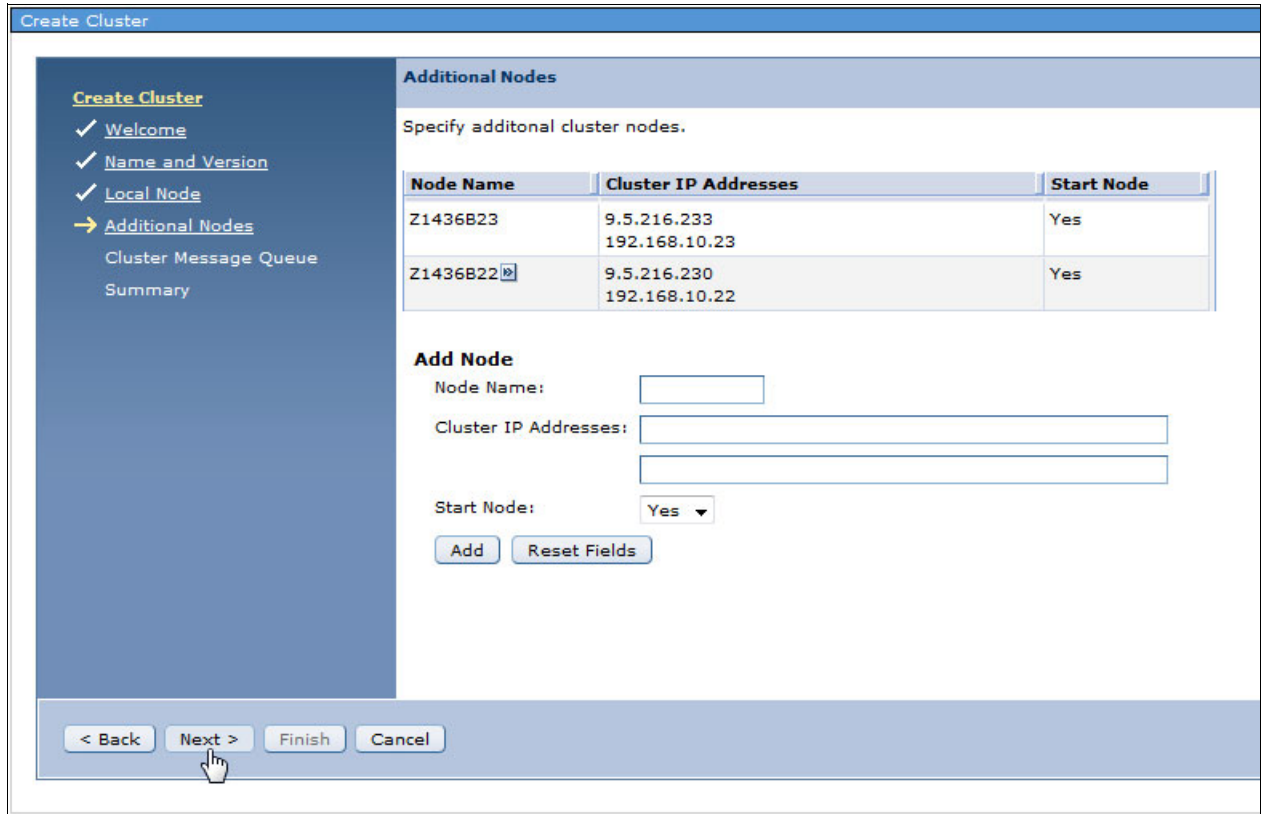

Figure 4-11 Cluster creation, all nodes specified
8. When all of the nodes in your cluster are specified, click **Next**, as shown in Figure 4-11.